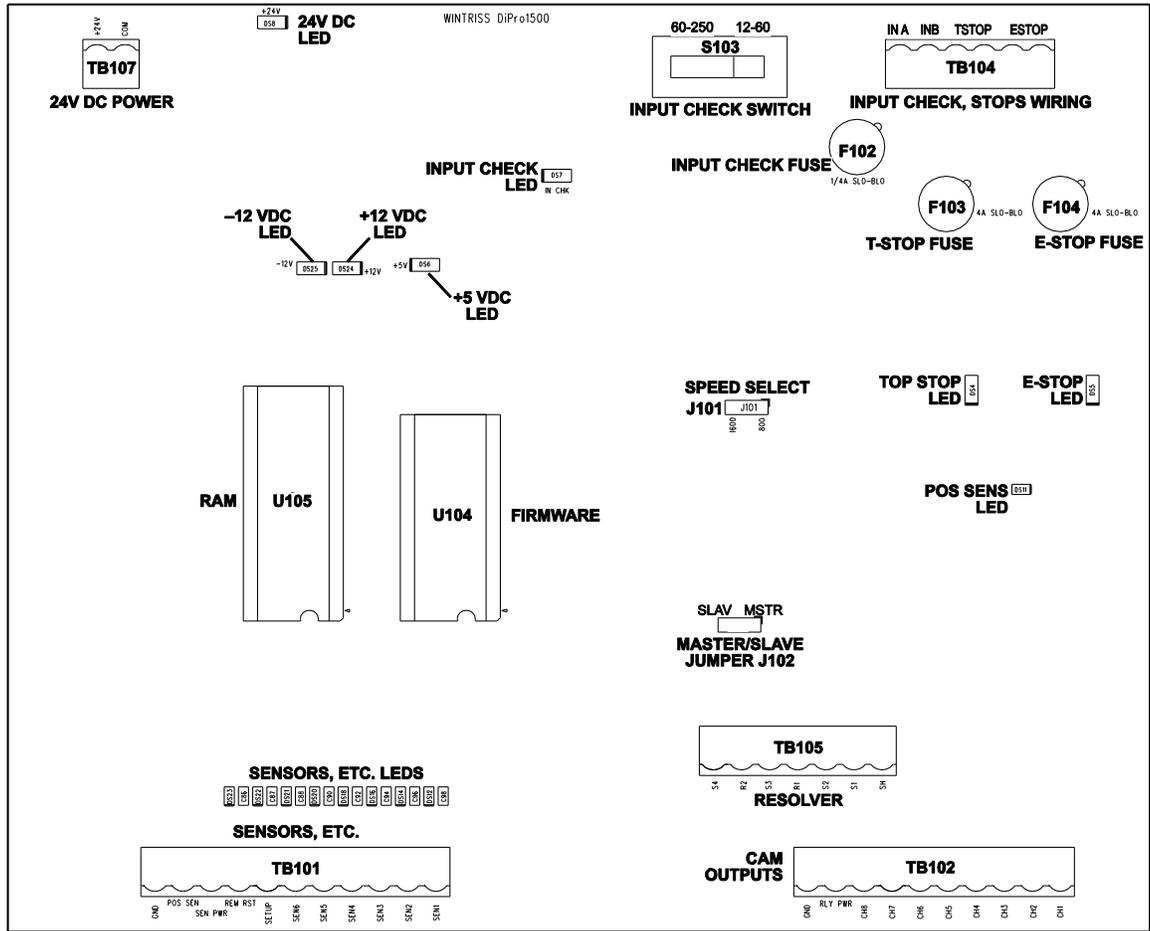

Figure 2-4. Location of components in DiPro 1500 (important items shown and labeled)
3. See Figure 2-4 for the location of the resolver connector TB105. Measure the resolver wires to fit and cut the wires. (If you also ran the position sensor cable through, do not cut these wires until the position sensor is installed).
1. See Figure 2-4 for the location of the resolver connector TB105 and the jumper J102.
Wiring connections for AC power, for the emergency stop and top stop circuits, and for the input check circuit are on a connector just below the top knockout. See Figure 2-4. No. 16 wire is recommended for these circuits (No. 14 if local codes require it).
- b. For applications where dual safety valve coil voltage is 12-60 Vac or Vdc: Set switch S103 to the right. The switch is marked 12-60 V. *(This switch is located at the upper right-hand portion of the board. See Figure 2-4 for location of switch. See Figure 2-9 for illustration.)*
The cam output assembly with enclosure or without enclosure used with the through-hole version of DiPro 1500 (see Appendix A) are not compatible with the new surface-mount version (see Fig 2-4). The through-hole version used 12 Vdc signals and the surface-mount version uses 24 Vdc signals. Use only item #4318602 (with enclosure) or #4317302 (without enclosure). You connect the cam channels inside the DiPro controller to the cam output assembly. The output assembly contains the relays that control the timing signals for your equipment. You connect your equipment to the relays. The relays open and close circuits to your equipment at the angles (degrees of the stroke) that you set.